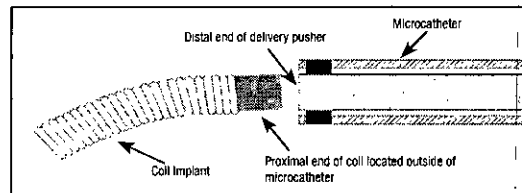

Figure 5 - Coil Detachment
41. After detachment has been confirmed, pull the delivery system completely out of the microcatheter. It may be necessary to slightly advance the delivery pusher (distal end of delivery pusher just crosses the microcatheter tip marker) to ensure that no part of the coil remains in the microcatheter. See Figure 5.